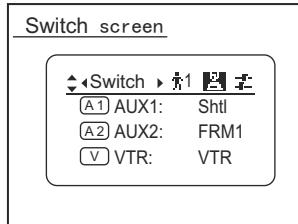

Fig1-4
2. Switch screen (See Fig. 1-4 below)